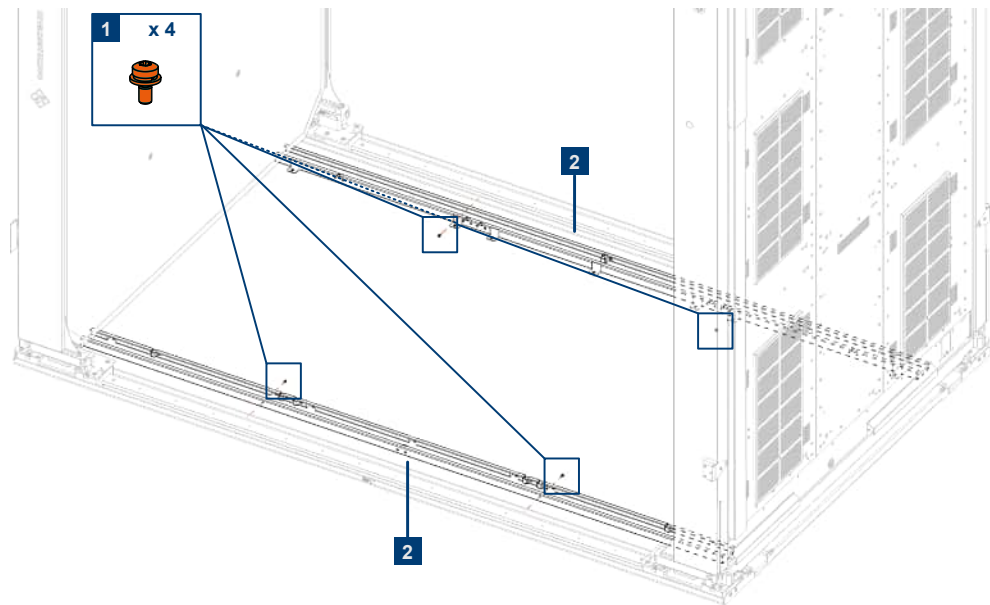

Figure 4-3: Removing the cable ducts
6. Unscrew the 4 screws (1) to remove the 2 cable ducts (2). Refer to Figure 4-3.